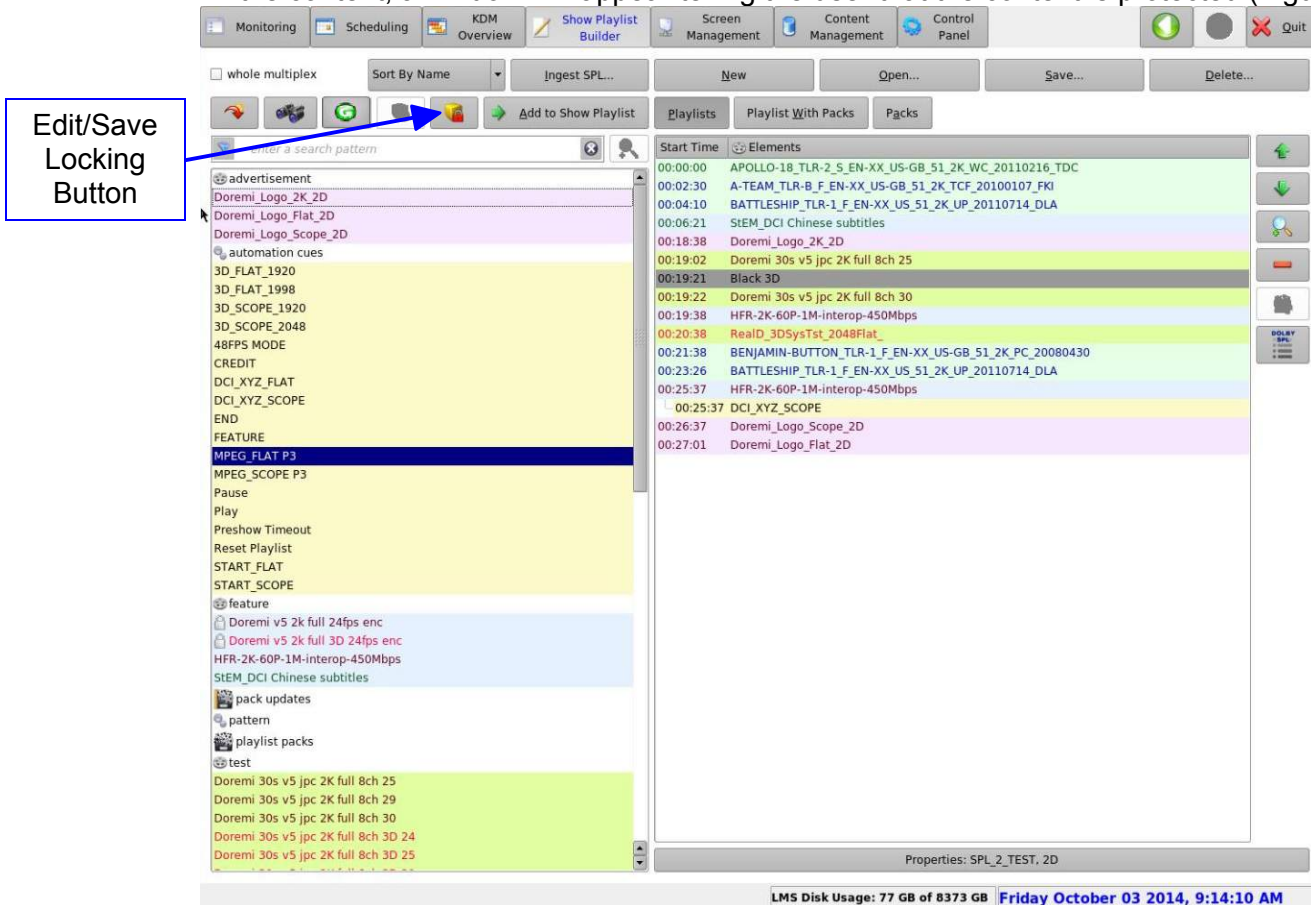

Figure 69: Edit/Save Locking
- Click on the Edit Locking button, select the content to be locked, and click Save Locking (Figure 69).
- If the content has been locked using the Edit Locking button (Figure 69), and the user tries to delete the content, a window will appear telling the user that the content is protected.